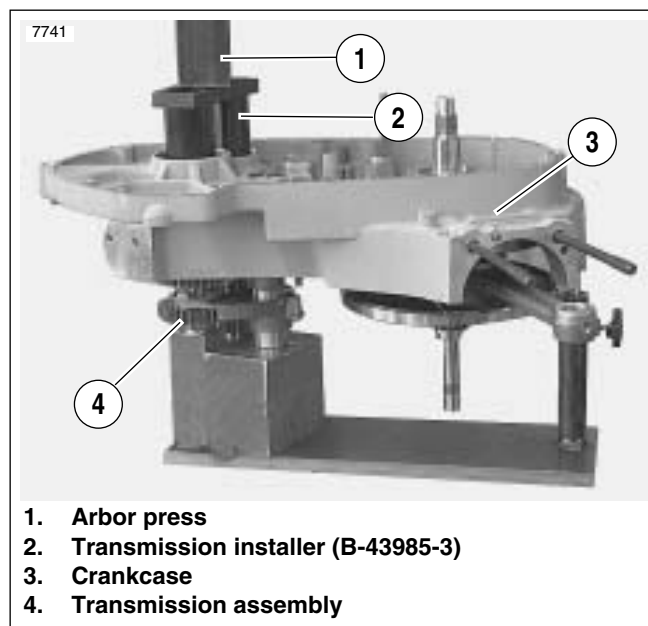

Figure 6-49. Transmission Remover/Installer on Fixture
- b. See Figure 6-49. Place left case half over transmission assembly and install TRANSMISSION INSTALLER (Part no. B-43985-3) into crankcase.
3. See Figure 6-49. Press crankcase into transmission assembly until it bottoms out.